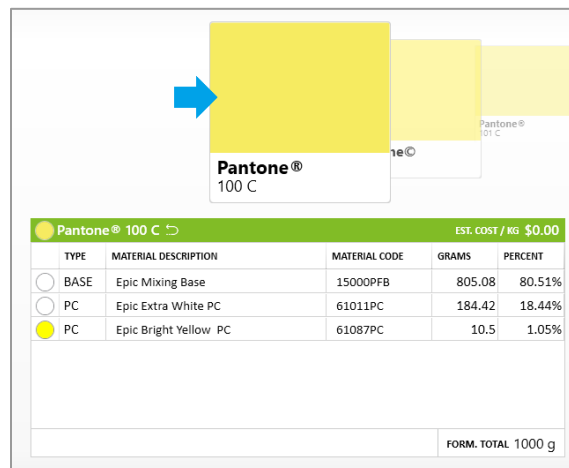

Figure 23 Selecting color to begin blending with Scale/DM4
3. When you have confirmed your equipment is connecting properly, navigate back to the “Blending” screen and choose your color from the Formula Picker to begin blending. We will use Pantone 100C again. (Figure 23)